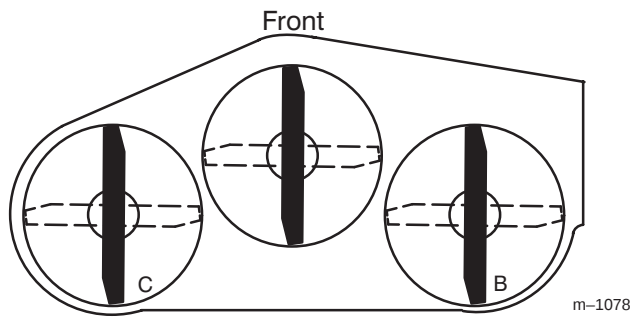
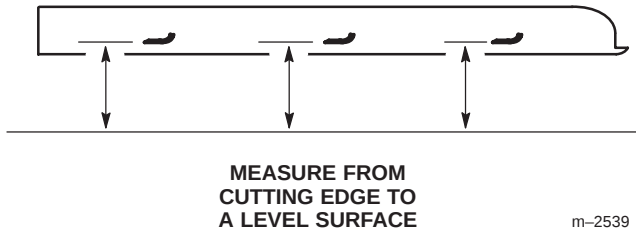

Figure 50
Figure 51
1. Position the **right** blade front-to-rear (Fig. 50).
2. Measure the right blade at the **B** location (Fig. 50), from a level surface to the cutting edge of the blade tip (Fig. 51).
4. Position the **left** blade front-to-rear (Fig. 50).
5. Measure the left blade at the **C** location (Fig. 50), from a level surface to the cutting edge of the blade tip (Fig. 51).